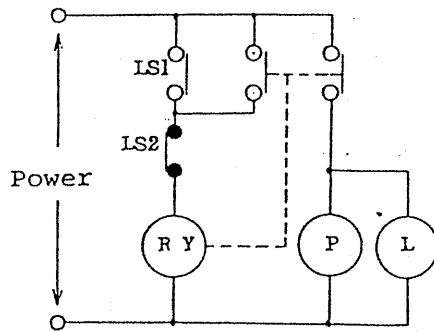

Fig. 4
- o An example of circuits where discharge control is performed between the two contacts of upper and lower limits is shown in Fig. 4.